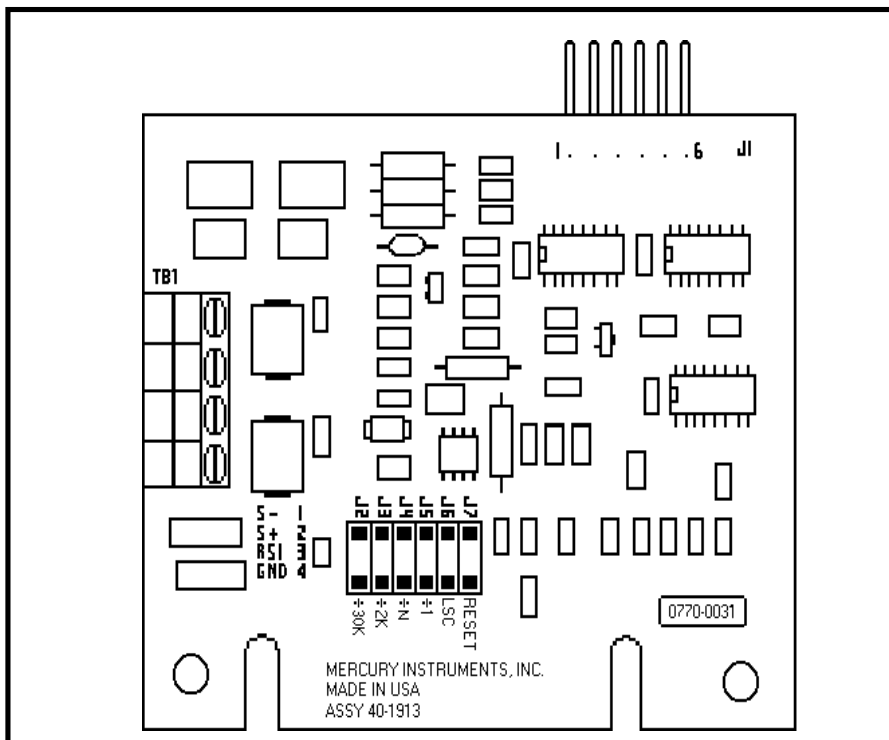

Figure 6
The Mini-AT can be configured to accept low frequency meter input pulses directly from a meter or Model 210/212 pulse transmitters (or any other low frequency pulse source) **if a RSI board is installed**. Alternatively, the Mini-AT can be configured to accept high frequency pulses from turbine meters input, but requires the High Frequency Input Board (HFI Board) instead of the RSI board (see Figure 6).
The standard power supply for the Mini-AT is an alkaline receptacle pack (40-1865) for six replaceable D-cell batteries (batteries not included). The battery pack is mounted inside of the instrument's case door (see figure 6). The expected service life of the battery pack is greater than three (3) years under normal use, with considerable reserve to allow for battery replacement after the low battery alarm occurs. If the battery voltage drops below a preset value, a BATTERY LOW alarm occurs. When this alarm occurs, the batteries (or battery pack) should be replaced.
- Loosen the three (3) slotted screws (item A) and remove the aluminum battery cover (item B), see figure 6.